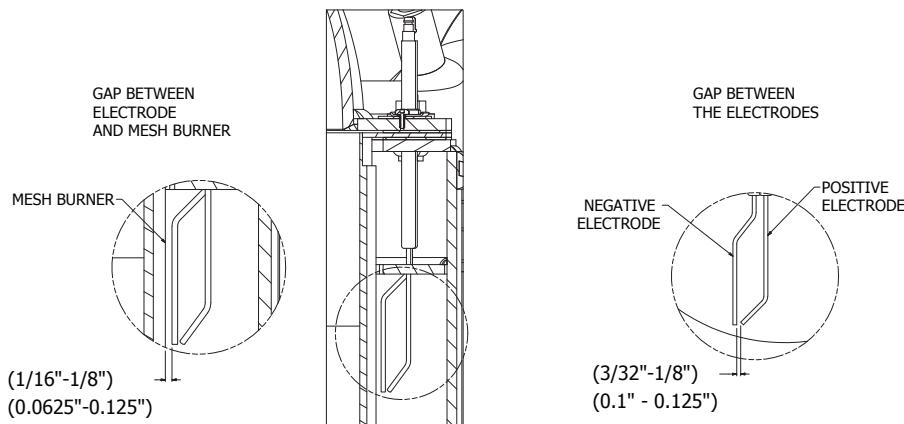

FIGURE 28 - IGNITOR GAP TOLERANCES
2. For re-installation or installation of a new ignitor, verify with calibrated calipers that there is a gap between electrodes greater than 0.100" (2.54 mm) and less than 0.125" (3.175 mm). See Figure 28.